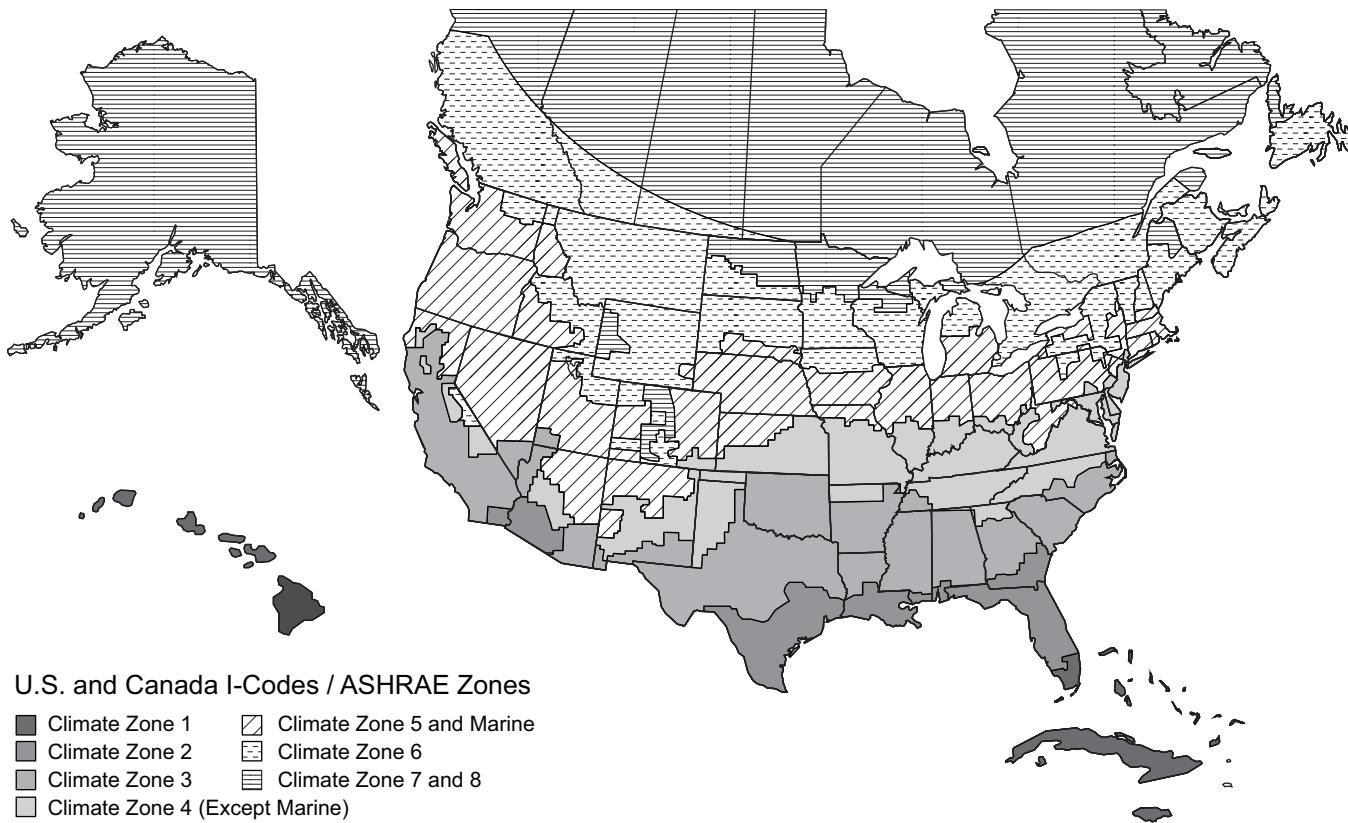

Fig. 81 — U.S. and Canada Climate Zones
- Refer to Fig. 81 for map of U.S. and Canada climate zones.